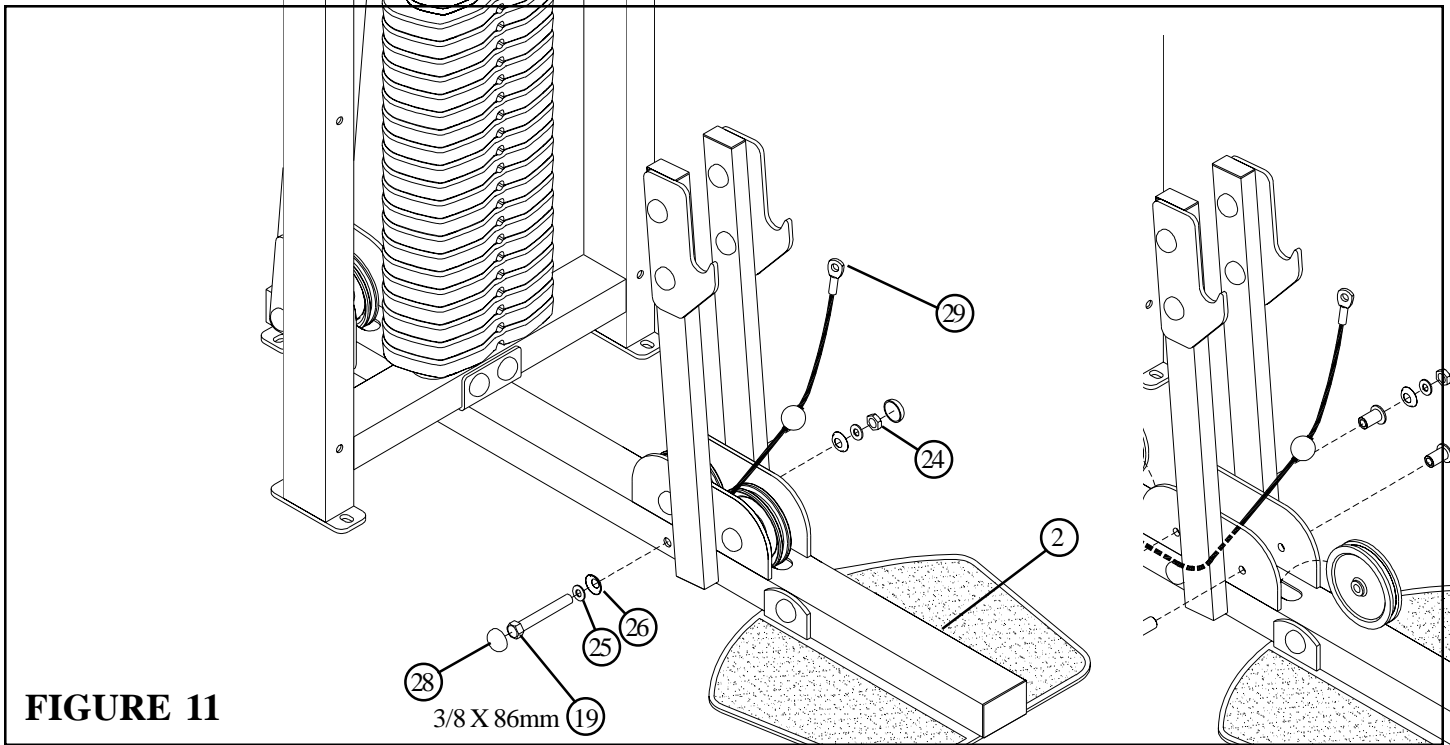

FIGURE 11
- **SECURELY** assemble one 3/8 X 86mm retaining BOLT (19) to the BASE FRAME (2) using two 3/8" SAE WASHERS (25), two 3/8" RH WASHERS (26), one 3/8" LOW HEIGHT LOCK NUT (24) and two RH CAPS (28) as shown in FIGURE 11. (**NOTE: Make sure the BI/TRI CABLE (29) runs in the groove of the PULLEY.**)